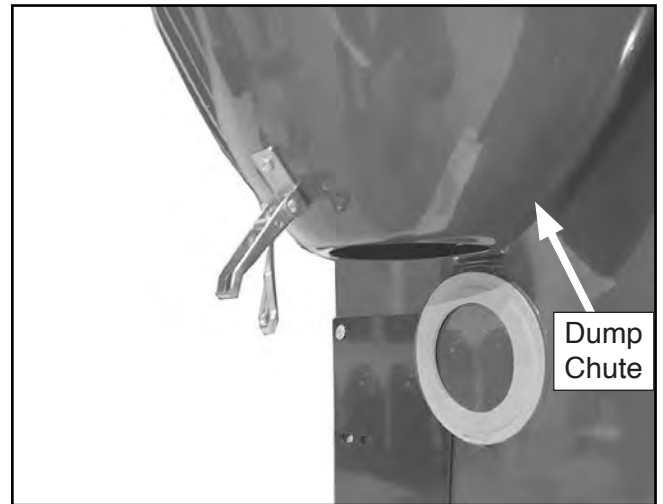

Figure 20. Dust collector dump chute.
5. Empty dust collector canister periodically during long blasting operations and after every use. Every five hours of blasting operations, clean canister filter using compressed air (see **Figure 20**).